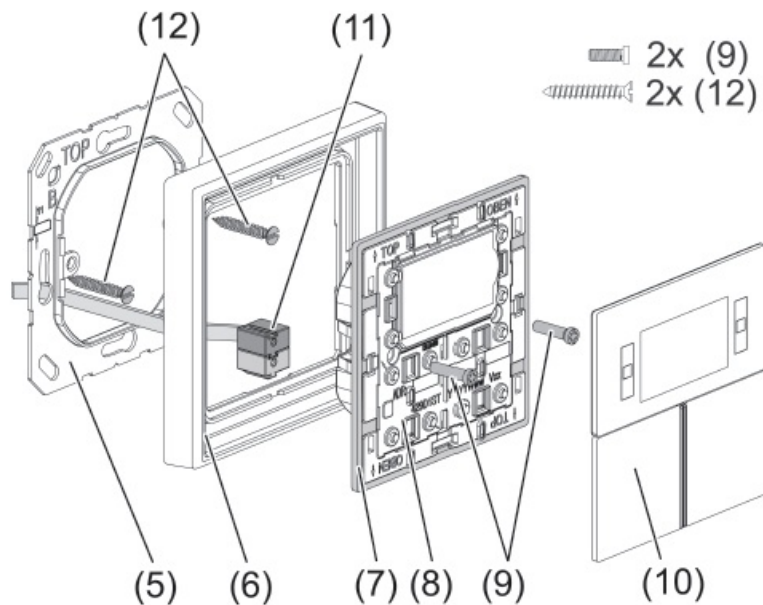

Figure 2: Mounting the controller module
- With the adapter frame (7) in the correct orientation, snap it from the front onto the module (8) (see figure 2).